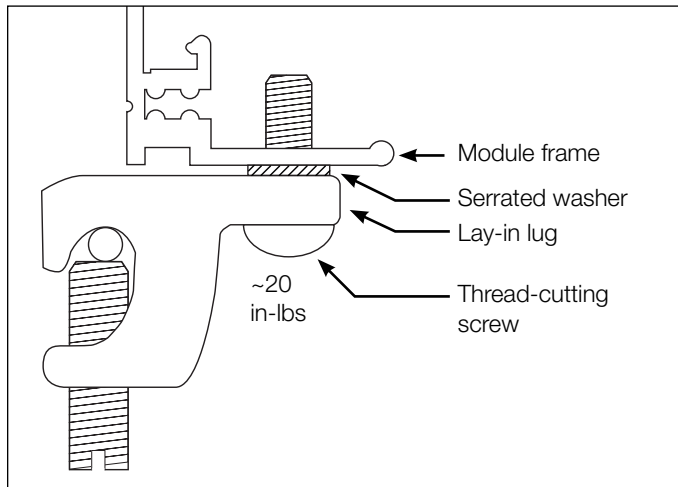

Fig. 3-6: Grounding lug with thread-cutting screw
2. Secure the lug to the grounding hole with a stainless steel thread-forming screw of at least 32 threads per inch and serrated washer, as shown in Fig. 3-6.